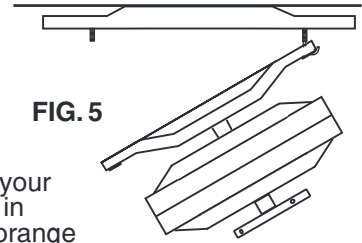

FIG. 5
A. Holding the fan carefully, lift it up to the Mounting Plate. With the metal hook on the Mounting Plate, hook the motor bracket through the slot in one end. See Fig. 5.